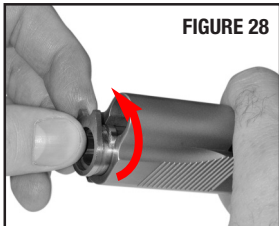

FIGURE 28
- Rotate the barrel bushing counter-clockwise until the bushing lug is aligned with the opening between the barrel and recoil spring holes (FIGURE 28). Pull the barrel bushing out the front of the slide.